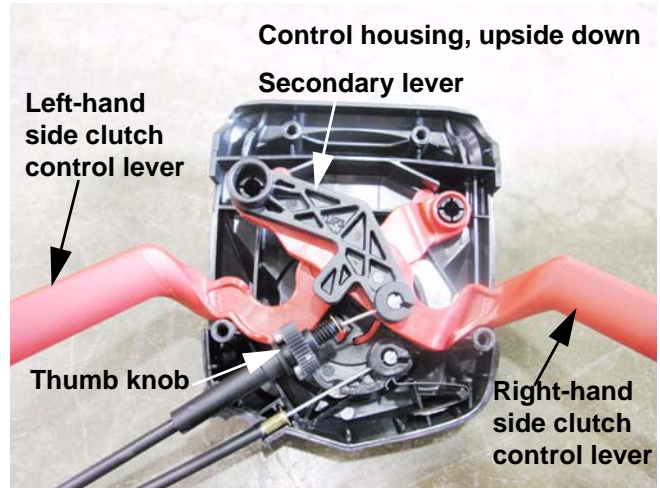

Figure 3.8
- Within the housing, the two levers cross one another. See Figure 3.8.